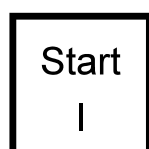

Figure 26. START Button
- Press the **START** button (Figure 26) on the controller to start the engine.